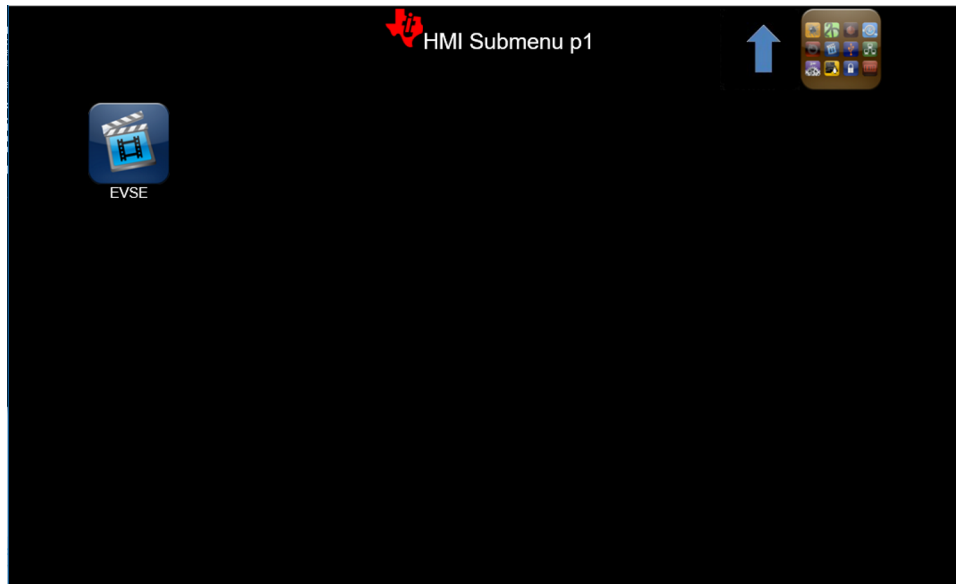

图 7. HMI Submenu
2. 图 7 shows the HMI Submenu, which is the next screen that appears. Click on the *EVSE* icon.